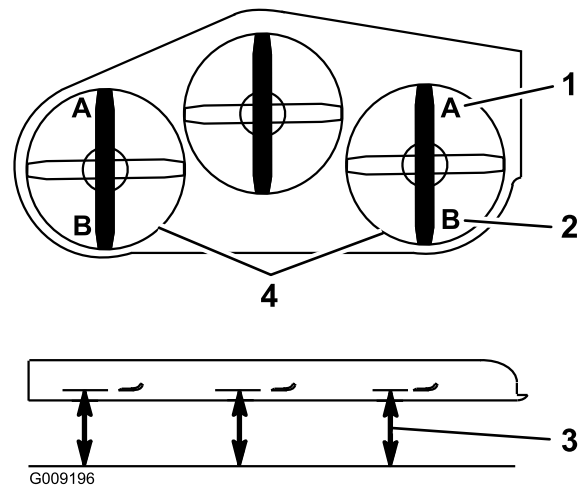

Figure 87
9. On both sides of the deck, measure from the level surface to the front tip of the blade (Position A) as shown in Figure 87.
16. On both sides of the deck, measure from the level surface to the back tip of the blade (position B) as shown in Figure 87.